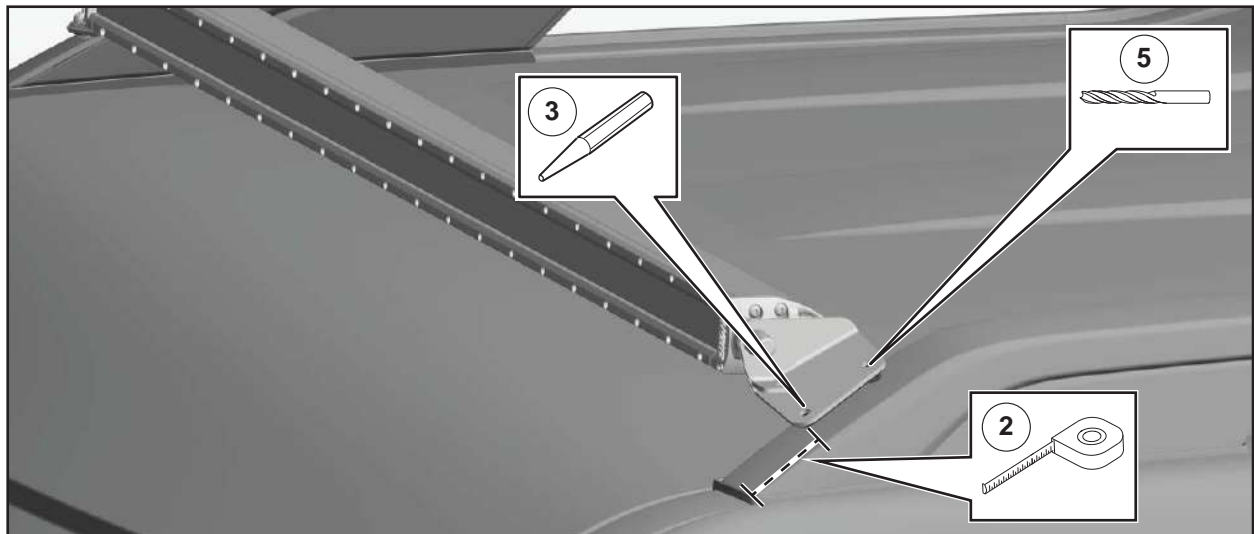

FIGURE 47
47. Position the light bar onto the side rails and mark the holes for drilling. See Figure 47.